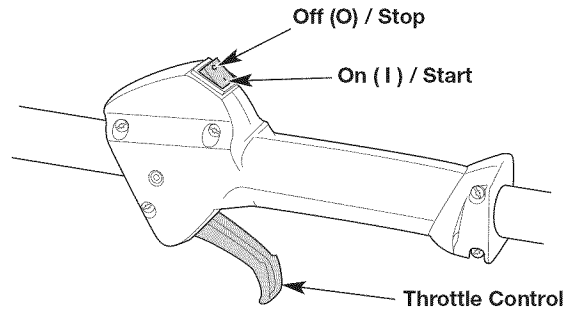
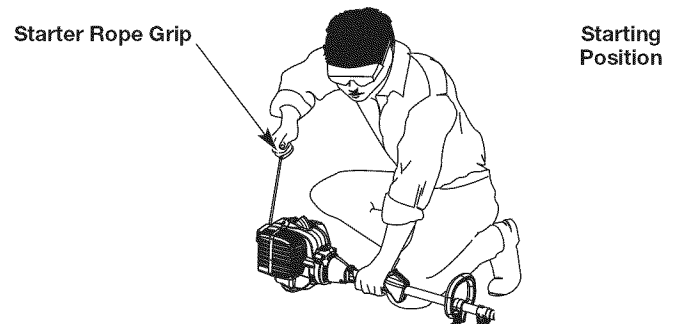

Fig. 8
Fig. 11
**WARNING:** Avoid accidentally starting the unit. To avoid serious injury, the operator and the unit must be in a stable position when pulling the starter rope (Fig. 11).
**NOTE:** There is no need to turn the unit on. The On/Off switch is in the ON (I) position at all times (Fig. 8).
4. Crouch in the starting position (Fig. 11).
5. **DO NOT** squeeze the throttle control (Fig. 8). Pull the starter rope with a controlled and steady motion until the unit starts (Fig. 11).
7. Squeeze and hold the throttle control (Fig. 8). Continue warming the engine for an additional 30 to 60 seconds. The unit may be used during this time.
2. Press and hold the On/Off switch in the OFF (O) position until the engine comes to a complete stop (Fig. 8).
6. **DO NOT** squeeze the throttle control (Fig. 8). Run the Speed Start™ accessory in intervals no longer than 2 seconds each until the unit starts.
9. Squeeze and hold the throttle control (Fig. 8). Continue warming the engine for an additional 30 to 60 seconds. The unit may be used during this time.
1. Clean the area around the oil fill plug (Fig. 8) to prevent debris from entering the oil fill hole.